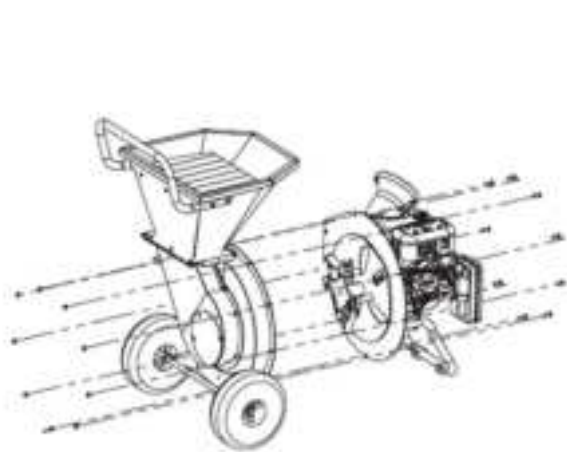

Figure 9
3. Detach the rotor housing and hopper from the rotor plate. See Figure 9.